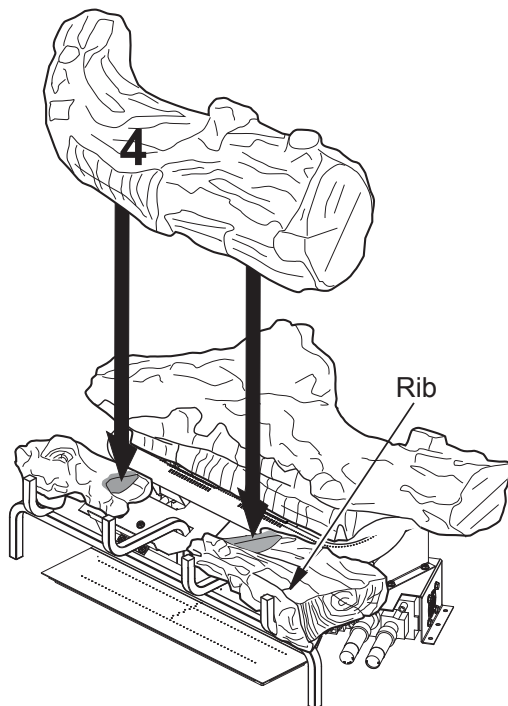

Figure 24 - Installing Log #4
4. Place front log (#4) on top of left and right bottom logs as shown in **Figure 24**. Notches in bottom of log #4 will fit over ribs in logs #2 and #3.